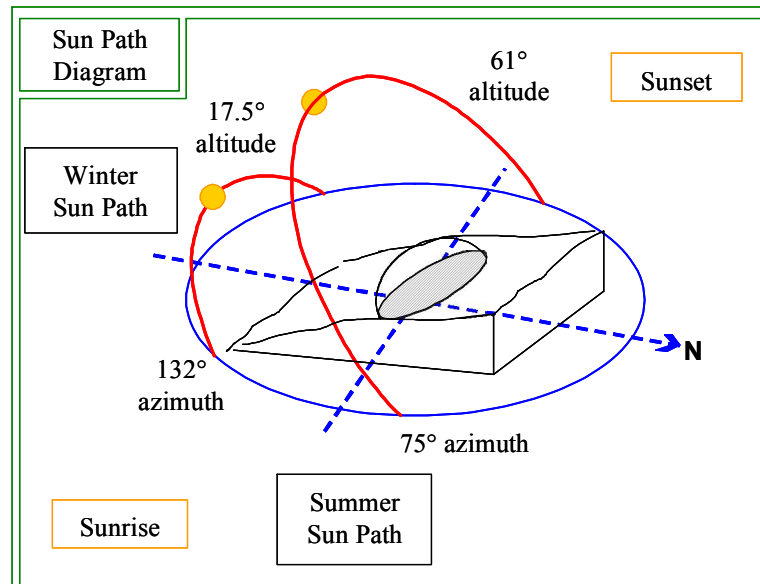

Figure 1. The sun's path for winter and summer in relation to a sloping surface
Figure 1. The three biomes looking down from the visitor centre with the Outdoor biome in front of the Humid Tropics biome on the left and the Warm Temperate Biome on the right.
- Angle the slope to allow for the different summer and winter paths of the sun i.e. mid-way at approx. $61^\circ - 17.5^\circ = 43.5^\circ$ (see Figure 1)